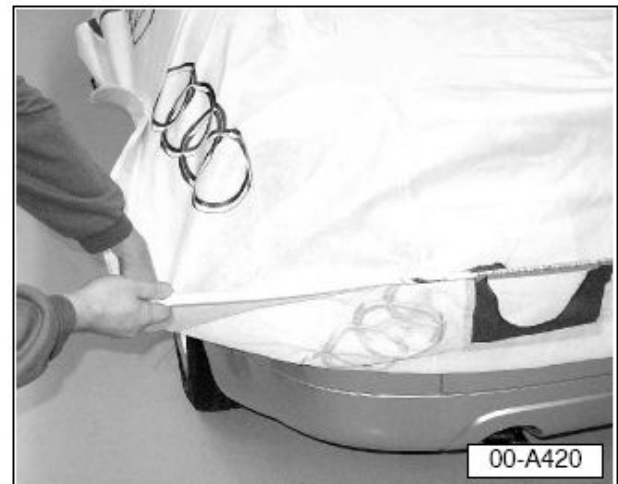

Figure 10. Lift cover.
10. With the aid of an assistant, lift cover from left and right sides of rear bumper (Figure 10).